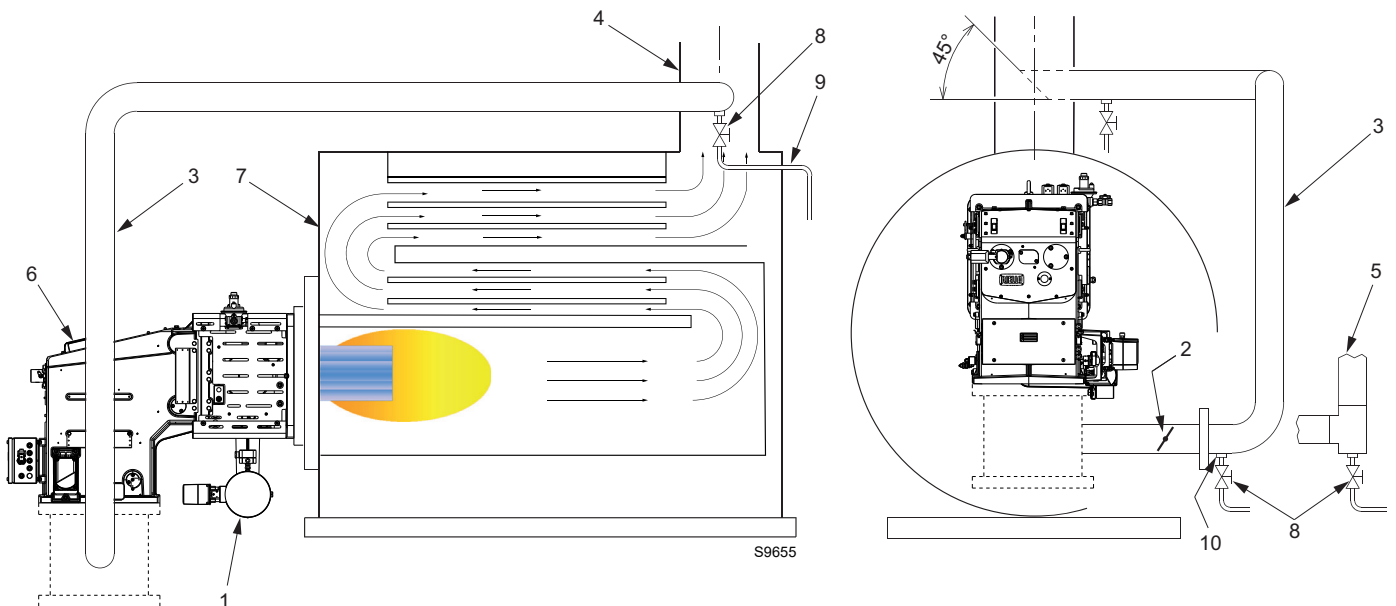

Fig. 18
- Normally the duct would connect to the stack as shown in Fig. 18, with a 45° cut facing the flue gas flow and with the center of the cut centered in the stack.
In cases of heavy condensation, a condensate drip leg may be required on the bottom of the duct (Fig. 18), to remove condensate.
- The FGR duct (Fig. 18) is normally made from DN200 pipe because it is easily obtainable and inexpensive. DN150 pipe can also be used for this application.
Key (Fig. 18)